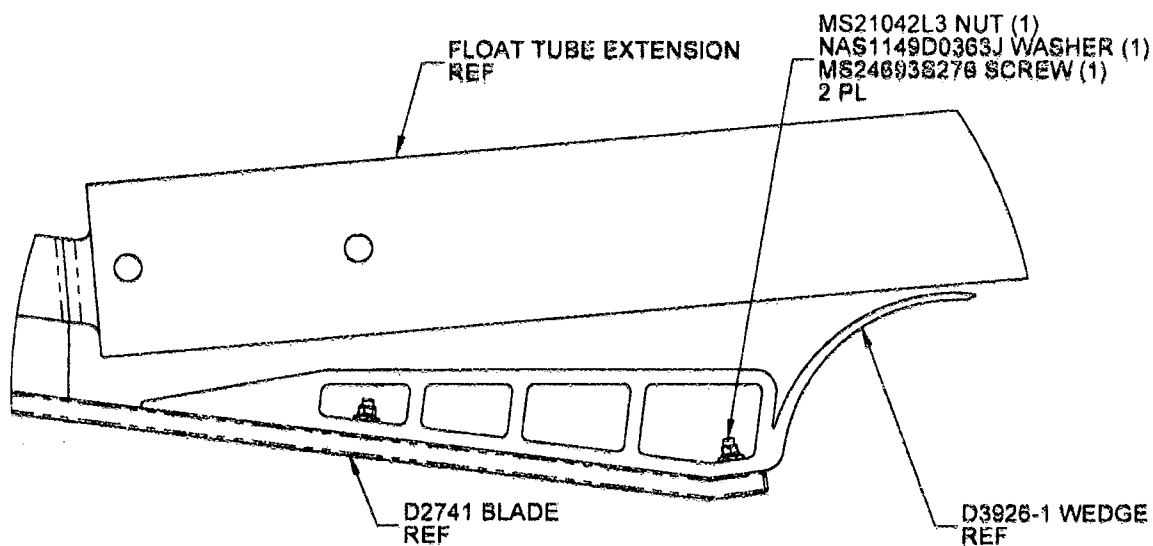

FIGURE 2: D3926-1 WEDGE INSTALLATION
- 7) Install the D3926-1 wedge on each D2741 blade using the hardware shown in Figure 2 Sheet 2